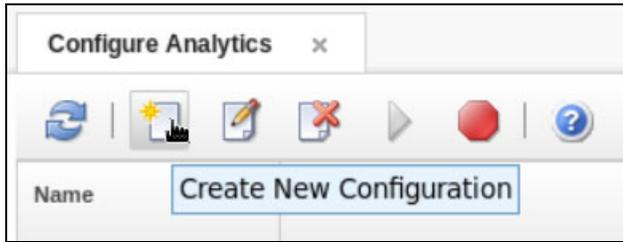

Figure 6-2 Create New Configuration icon
2. After the Configure Analytics portlet opens, Helen clicks the **Create New Configuration** icon, as shown in Figure 6-2.